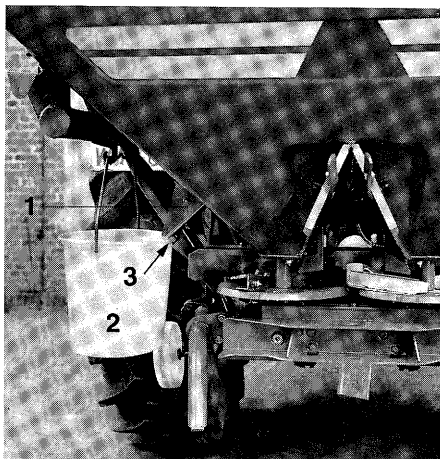

Fig. 7.6
With the calibration kit „Quantrol“ (Fig. 7.6/1) the shutter position for the desired spread rate can be determined **without setting chart** but with the **Nomogram** or the **disc rule**. Hereby the changeable spreading properties of the fertiliser kinds are already considered during the determination of the shutter slide setting position.
- Hang the collecting bucket (Fig. 7.6/2) to the hooks provided on the main frame. The bucket should lock with its clamping device (Fig. 7.6/3).